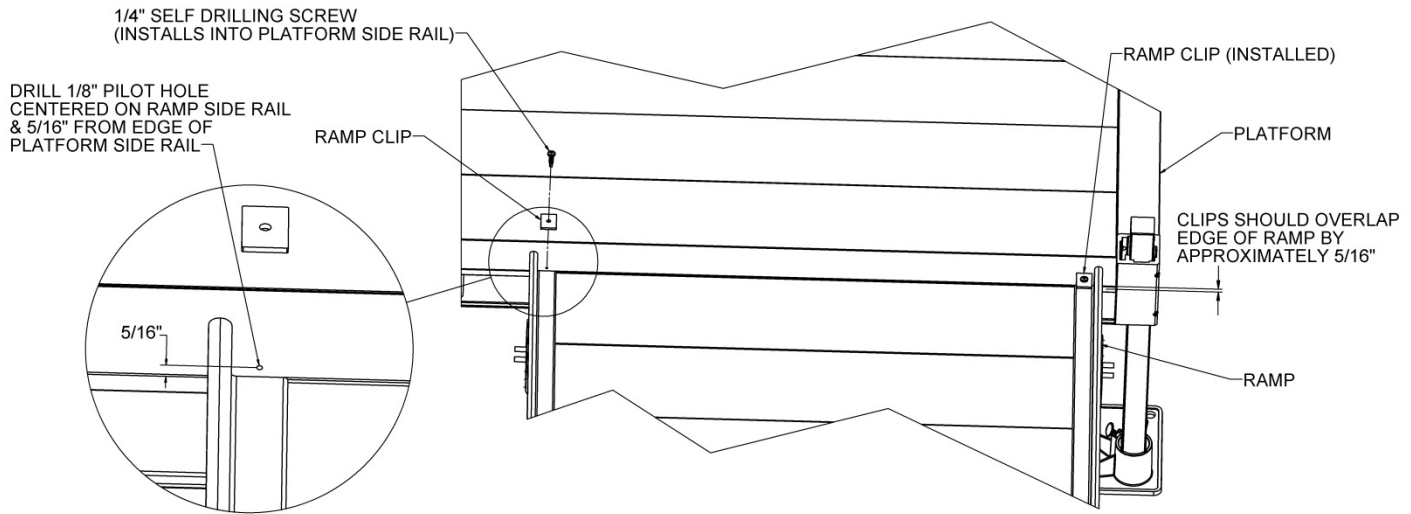

FIG. 5.1
- 6.3. Position ramp clip so that the long side is as close as possible to the ramp side rail and with the clip edge extends onto the ramp side rail by approximately $5/16"$ (FIG 5.1).